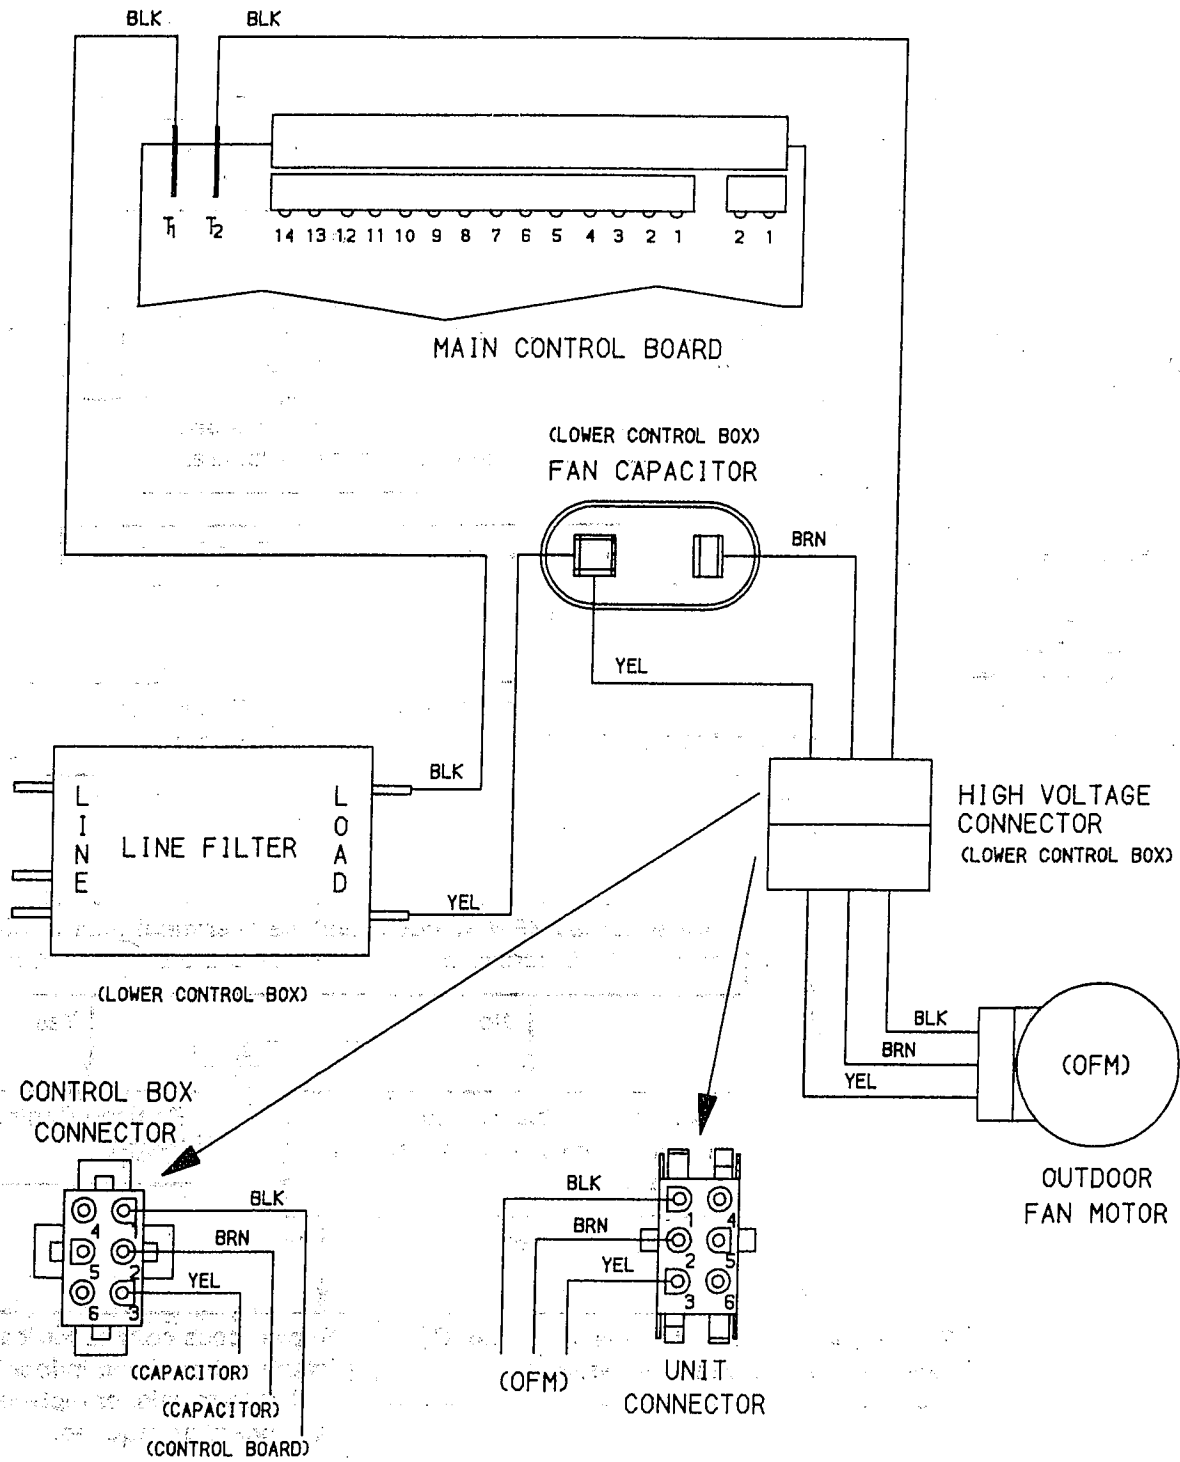

Fig. 31—Outdoor Fan Circuit
- Fan motor is standard single phase component. Check for failed motor, capacitor, or control board using Figure 31.